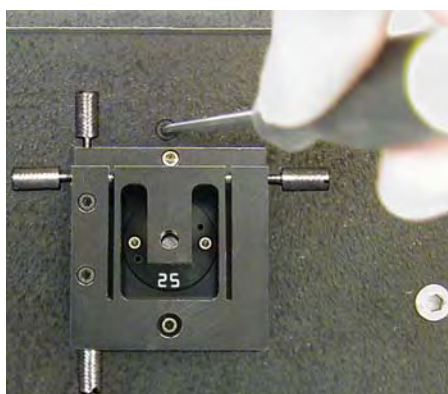

Figure 14. Removing the Light Baffle/Shutter Mount Screw
3. Using a 7/64" hex tool, remove the light baffle/shutter screw (above the X-Y stage). See Figure 14.